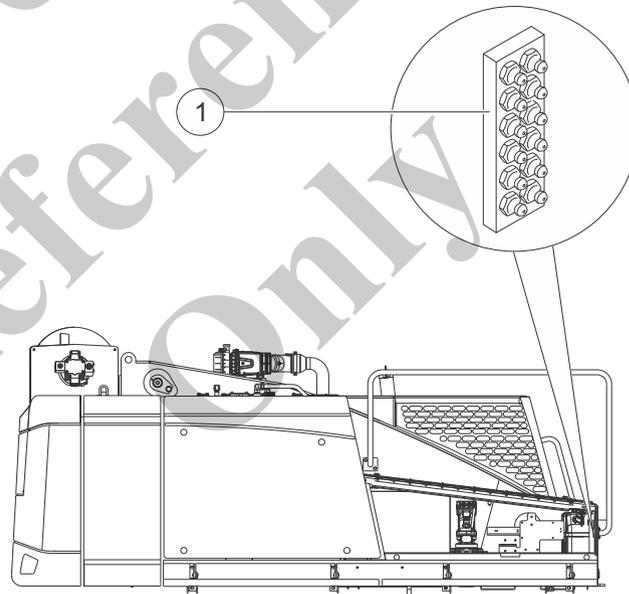
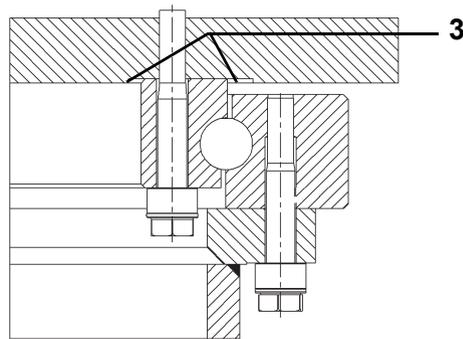

Fig. 227 Central lubricating strip
Fig. 228 Rotary connection sealing lips
3	Lubricate the top 8 lubricating nipples (1) in Fig. 227 (outlet no. 5–12) until grease comes out of the sealing lips (3) in Fig. 228.